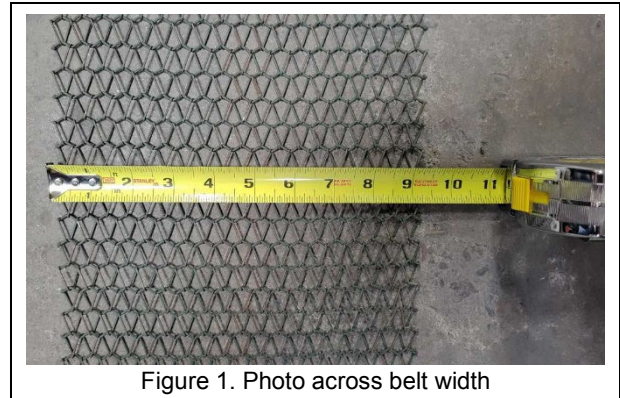

Figure 1. Photo across belt width
1. Take a clear photo across belt width with an inch tape measure showing edge to edge dimension and spiral weave. (Figure 1)